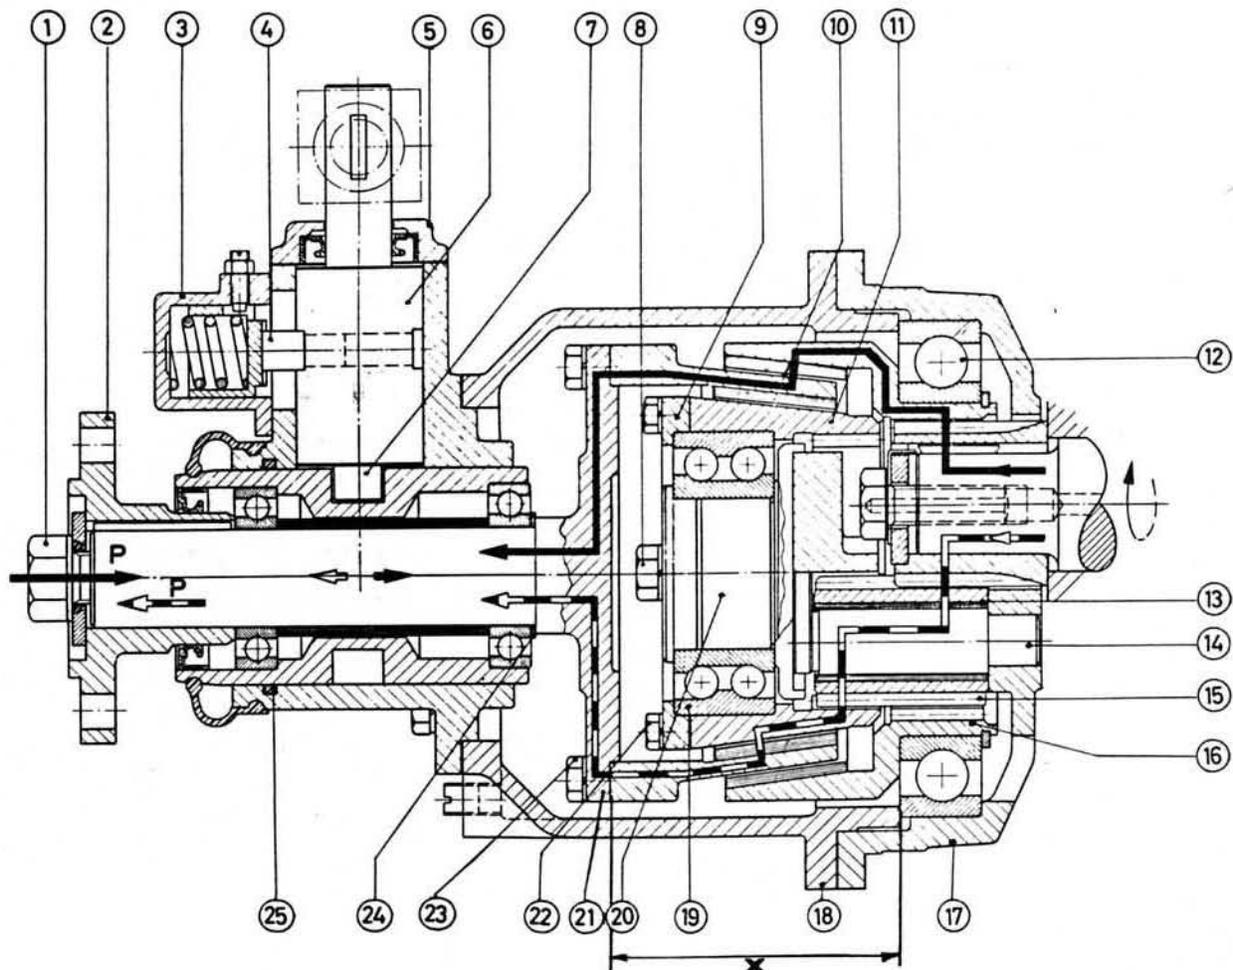

Fig. 70. Reduction - reverse gear
1. Loosen the bolt (1, Fig. 70) and pull off the coupling flange (2).
2. Loosen the interlock housing (3) and pull out the interlock pin (4).
3. Loosen the cover (5) and pull out the actuating shaft (6) and pin (7). Notice the position of the pin which has marked sides. See under the heading "Fitting".
4. Loosen the bolts retaining the reverse gear casing (18) to the housing (17). Separate the casing from the housing with light blows of a mallet.
5. Loosen the bolts (23) and remove the shaft.
6. Loosen the bolts (8). Fit one of the bolts in the centre hole on the bearing support (20) and pull the gear (11) loose by screwing in the bolt. If the ball bearing (19) is to be removed from the gear, loosen the bolts (22) and the ring (9) whereby the ball bearing is pressed out.
7. Lift out the cone (10).
8. Take out the gear (16) and the bearing (12) from the housing. Removal is facilitated by inserting a drift in the two holes on the housing, knocking on the bearing race and thus striking the bearing out of the housing.
9. Drive out the shaft (14) with the gear (15) and the bearing.